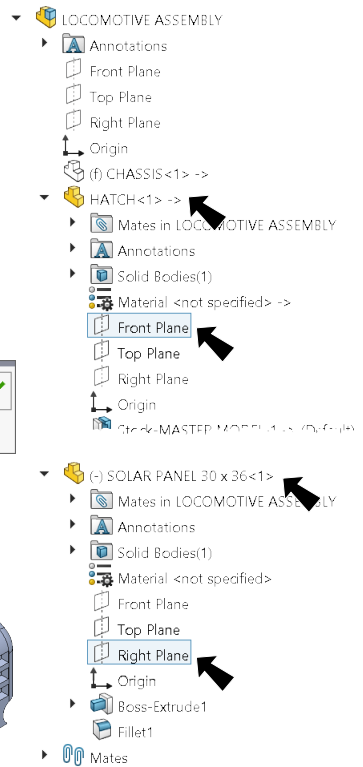

Fig. 17
Step 6. In the flyout Feature Manager design tree, expand **Hatch** click **Front Plane** and expand **Solar Panel** and click **Right Plane**, Fig. 17.